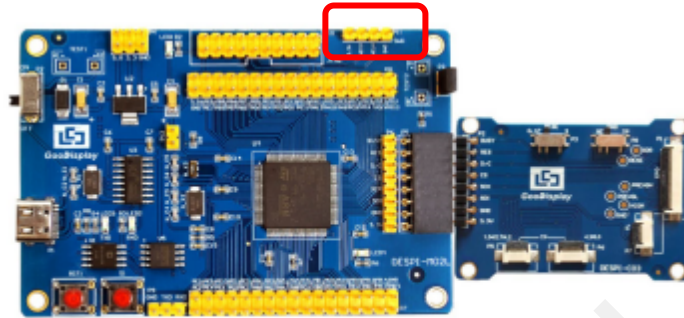

Figure 14: SWD interface
1) As shown in figure 14, DESPI-M02L has a 4-wire SWD interface, which can be connected to the simulator interface by 4 wires and then connect the simulator to the computer.